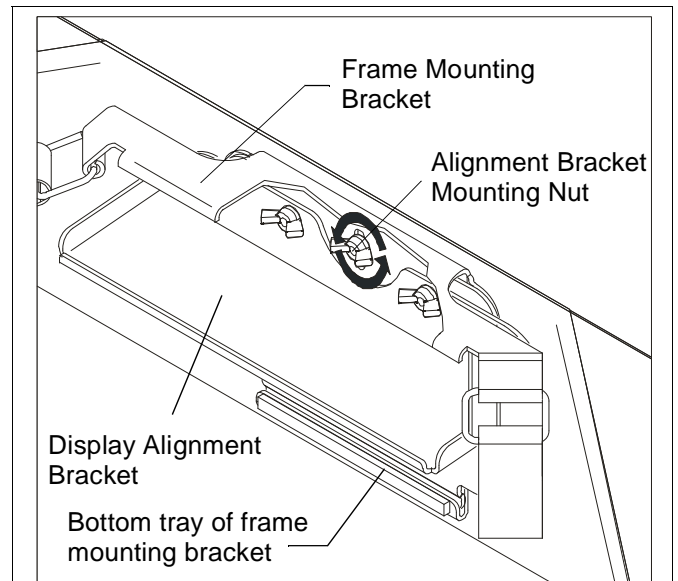

**Figure 4**
5. Position display alignment bracket on top of display with wing nuts facing towards rear of display and alignment bar resting on display's top and front. (See Figure 4)
6. Loosen two wing nuts and slide mounting bracket up or down until bottom edge of bracket is positioned 1/8" up from lower edge of top bezel. (See Figure 4)